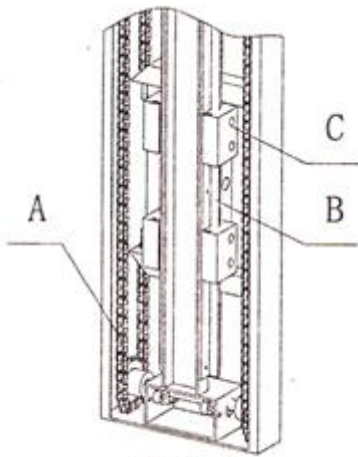

图 5-1
(1) open the machine cover, carefully in the chain (round) painted A proper lubricating oil (generally for butter), and the lubricating oil with the chain transmission mechanism (FIG. 5-1), suggest that once every three months maintenance. (2) in the elevator slippery course B (slider C range of contact) coated with a suitable amount of lubricating oil, will be subject to not drip lubrication (FIG. 5-1) recommended maintenance once every month.